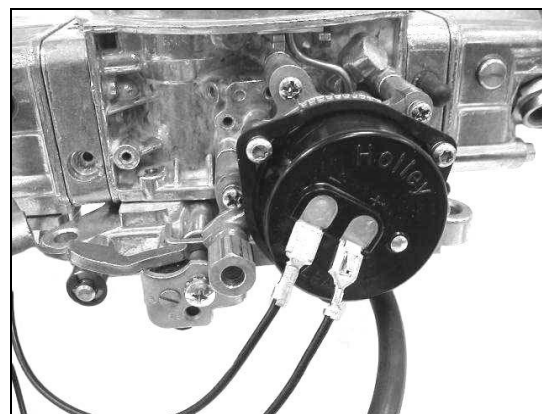

Figure 10
11. Use the shortest wire from the kit and connect the bayonet end to the negative choke cap terminal marked (-). Ground the eyelet end to the carburetor. Do this either under a screw on the vacuum secondary diaphragm cover or under a screw securing the choke housing to the main body as shown in Figure 10.